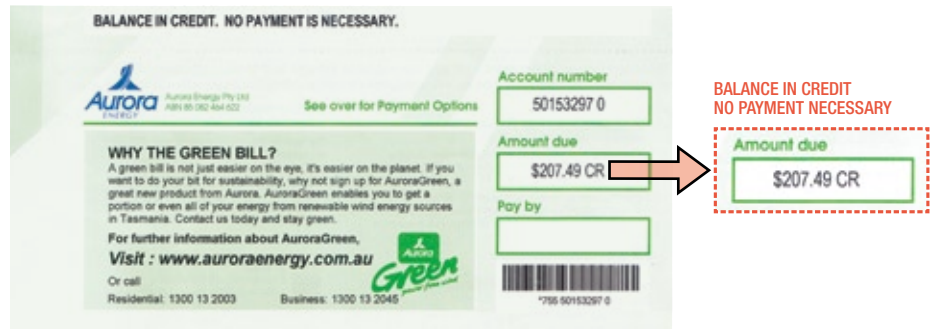

Fig. 11 Aurora energy bills at the Sustainable House Macquarie Street have been continuously in credit since 14 November 2008
Solar electricity is another passive solar system, collecting light from the sun and converting it to electricity. Using the grid as a store overcomes the problem of providing electricity at night when the sun is not shining. An inverter changes the direct current (DC) from the panels to alternating current (AC) making it compatible with house wiring. Orient the panels to the north, tilted (35° in Hobart) in order to maximise the amount generated over 12 months (Fig 10). The power is supplied to the house with the surplus exported directly to the grid and additional needs imported from the grid. If there is a surplus of export over import the supply authority will credit you for that surplus. (Fig. 11) Solar electricity produces no carbon dioxide, is quiet, clean and above all sustainable.